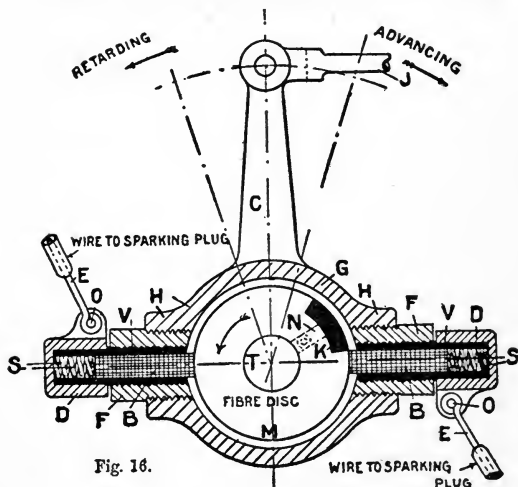

Fig. 16.
It will now be convenient to consider how the timing of the spark is actually effected, and an examination of Fig. 16 will help us in this matter, it represents a—
45. **Commutator or Current Distributor** of the Panhard type. T (Fig. 16) is the end view of the half-speed shaft, and M that of the disc, made of a non-conducting material, usually of a fibrous character; it is keyed to shaft T, and is fitted with a metal plate K, which is put in metallic contact with the shaft T, which is in the electric circuit, by means of a screw or pin N. The shell or body G has a boss at the back which is bored to fit the shaft, so that its arm or lever C can move it and its fittings freely in either of the directions shown by the arrows; into the projecting bosses HH insulating sleeves or brush holders FF are screwed, and into these again the brass tubes VV are screwed. These tubes contain the *brushes* BB, which are made of coiled wire gauze, held in contact with the edges of the disc by the helical springs SS, which press against the brass split caps DD; bolts or screws OO clipping the cap on the tube, the wires EE placing the brushes BB in metallic contact with the coils. Obviously, this commutator is arranged to serve *two cylinders* with cranks side-by-side, as in the Mors engine, the number of bosses HH and their fittings corresponding with the number of the engine's cylinders (with cranks at 180° , the bosses would of course be at 90° to one another). The link J is connected to the working handle by suitable rods, wire cables, and levers. A movement of C to the left, as can be seen, will cause ignition to occur later, or the spark will be *retarded*, just as a movement in the opposite direction will bring the brushes nearer the advancing metallic contact piece, and hasten ignition or *advance* the spark.